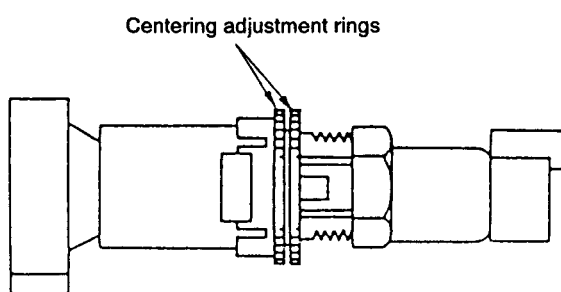

Fig. 7-22.
- 1) Turn the centering adjustment rings to provide an image with even right, left, upper and lower margins. (See Fig. 7-22.)